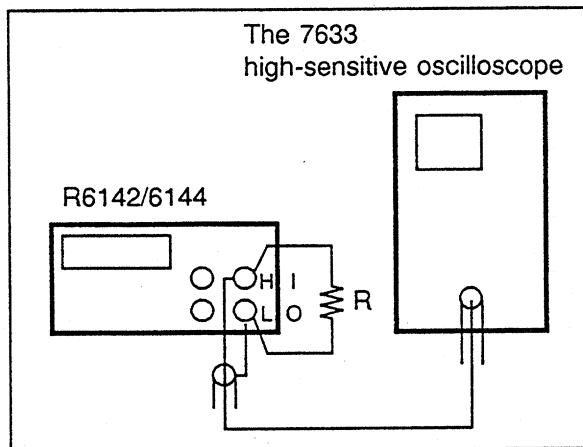

Figure 4-3 Cable Connection for Low-frequency Noise Voltage Measurement
① Connect an oscilloscope to the R6142/6144 as shown in Figures 4-3 to 4-6.